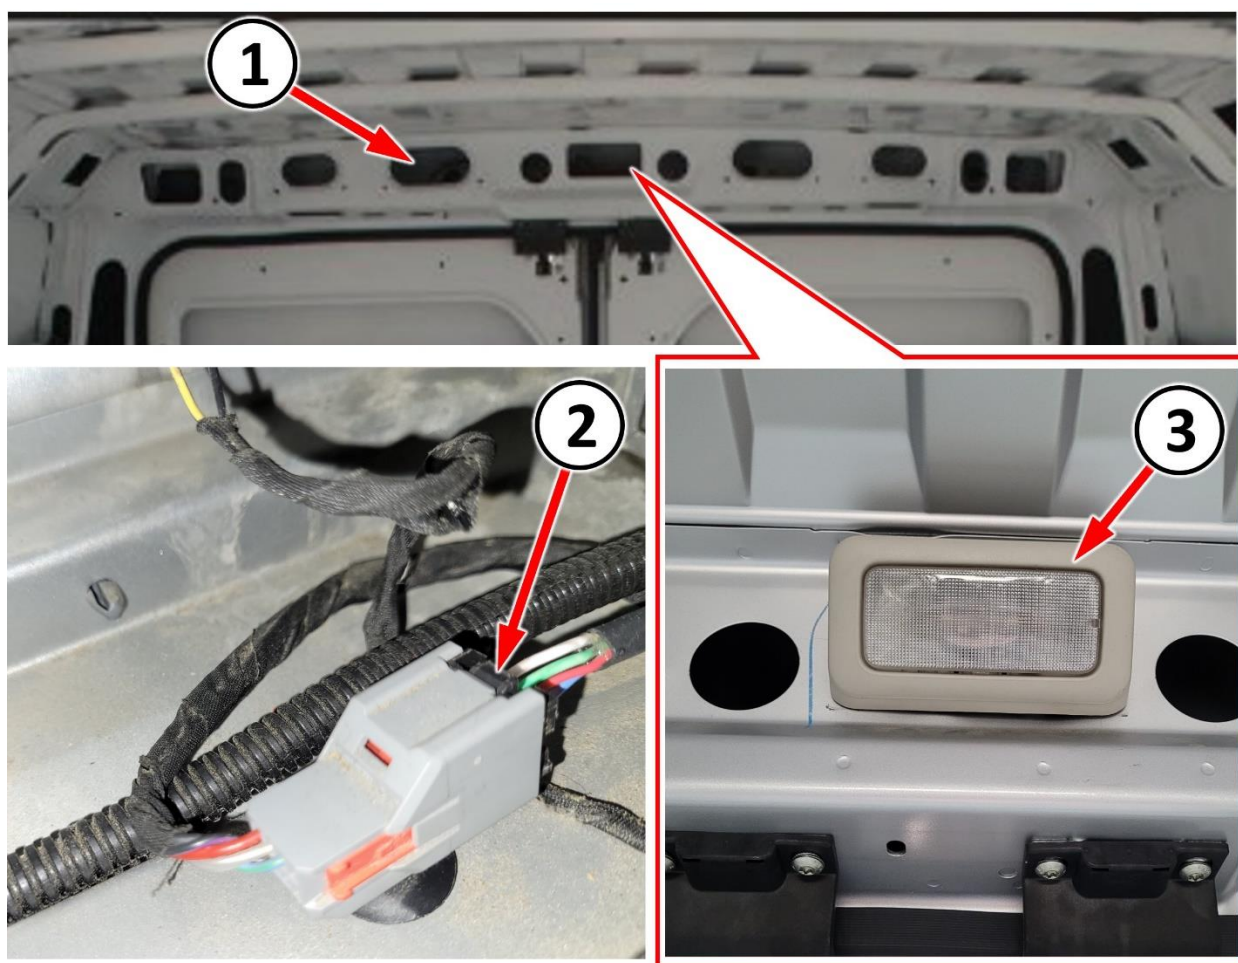

Figure 10 – Rearview Camera Wire Harness Connector
6. Inside the vehicle, reach through the access hole (1) left of center to disconnect the rearview camera wire harness connector (2) (Figure 10).
NOTE: If vehicle is equipped with a cargo lamp (3), it may be helpful to unclip the lamp for additional access through the center access hole (Figure 10).
17. Inside the vehicle, reach through the access hole (1) left of center to connect the rearview camera wire harness connector (2) (Figure 10).